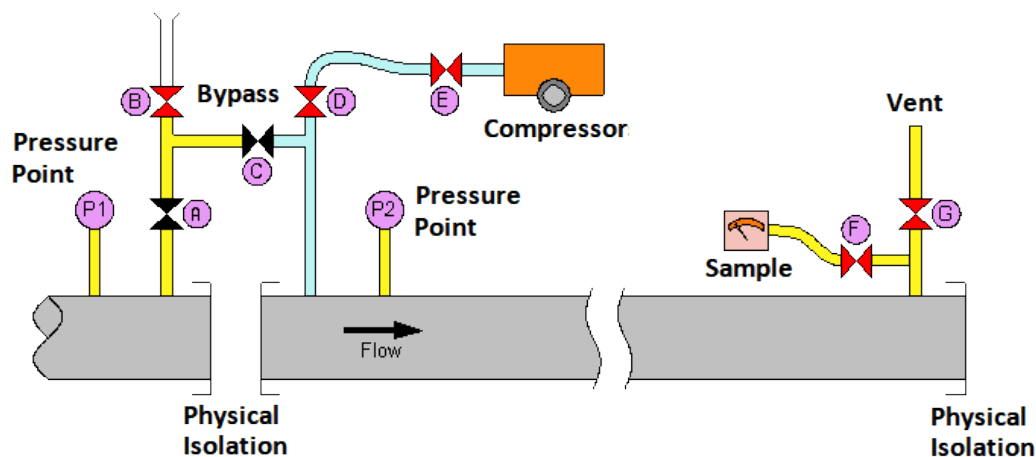

Figure 102- De-commissioning a Main Using a Compressor
3. Check that the decommissioning and removal of any bypass (es) has been completed. Refer to Figure 102, and decommission all bypasses by closing valves A and C and opening valve B.